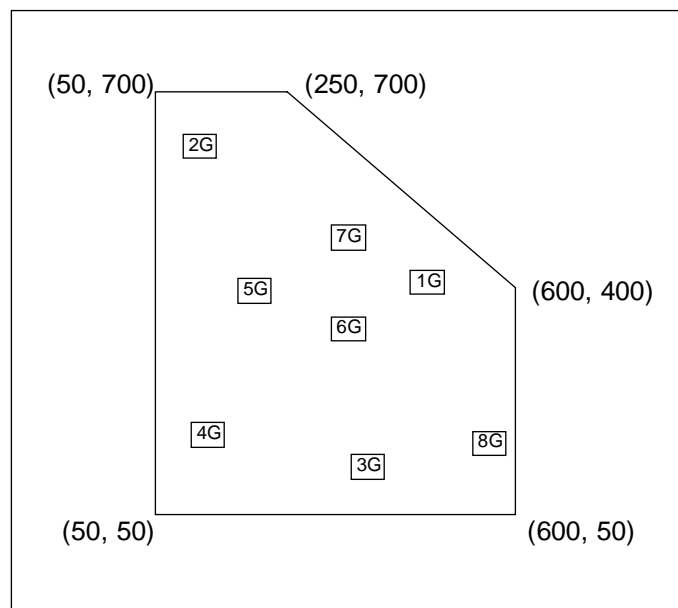

Figure 3.1 The Coordinates of the Points Defining the Extrapolation Polygon.
3. Create a single arc by clicking on the points shown in Figure 3.1 (clockwise or counter-clockwise - it does not matter). To ensure you are placing the points in the proper location, note the cursor coordinates displayed on the left side of the *Edit Window*. Begin with the point (50, 700). To close the polygon, double click on the point you started with.